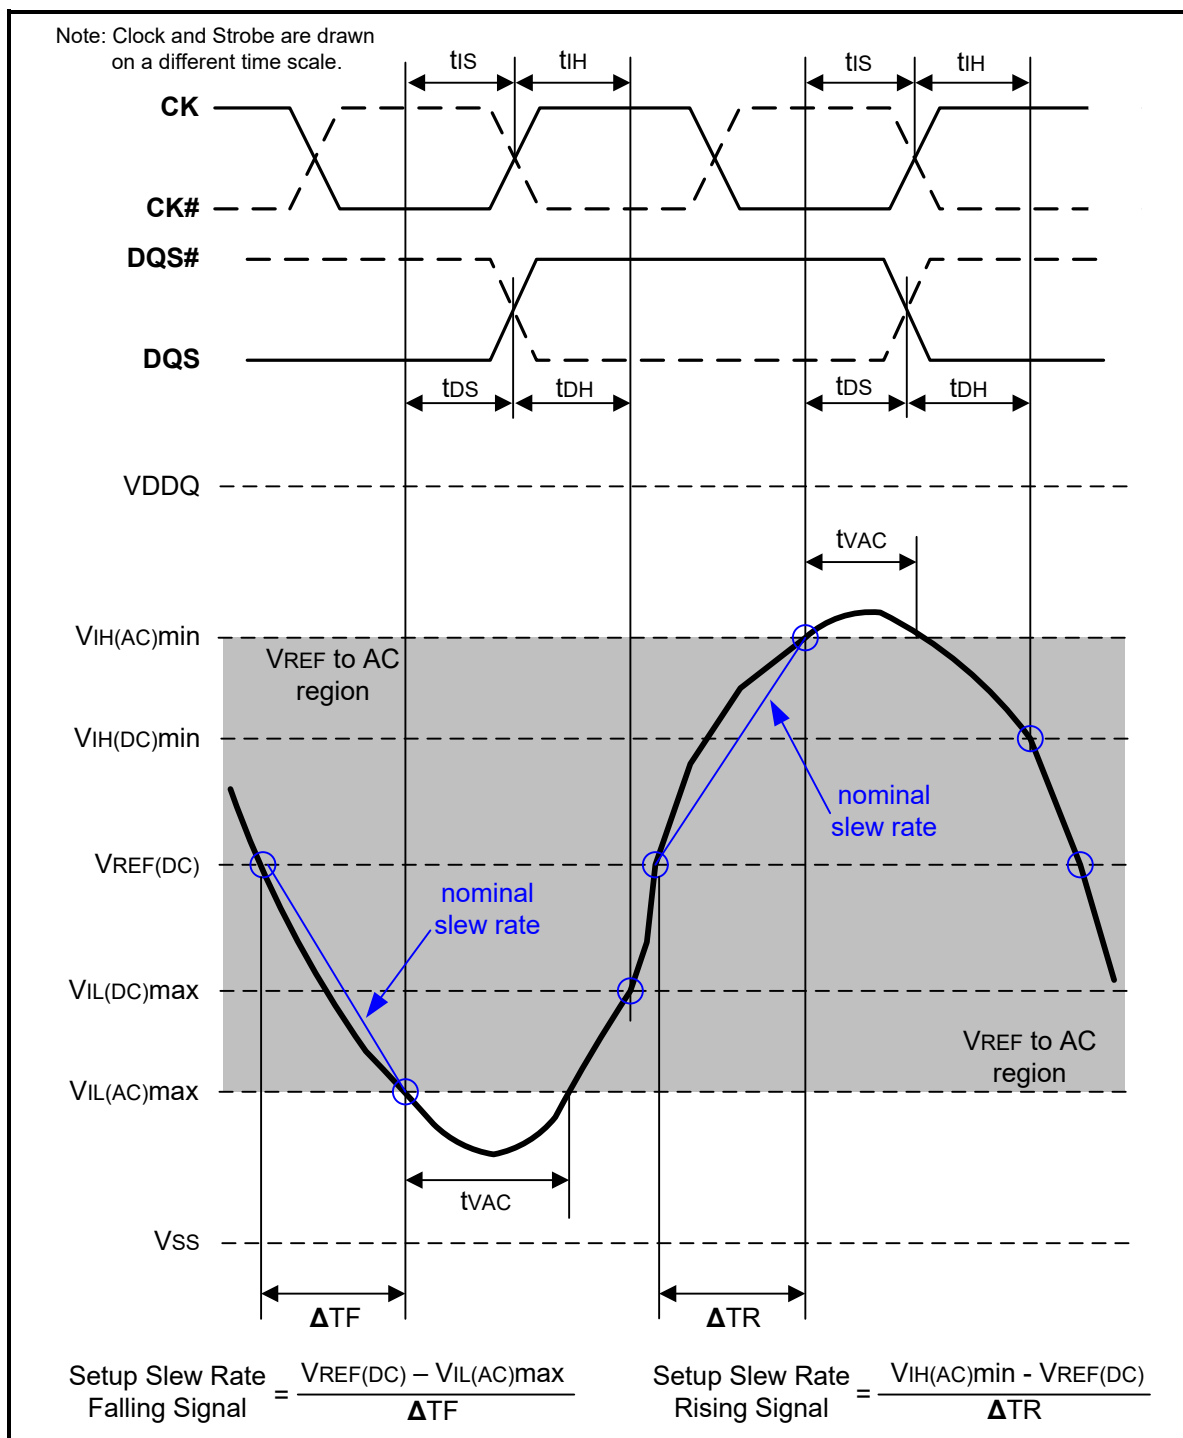
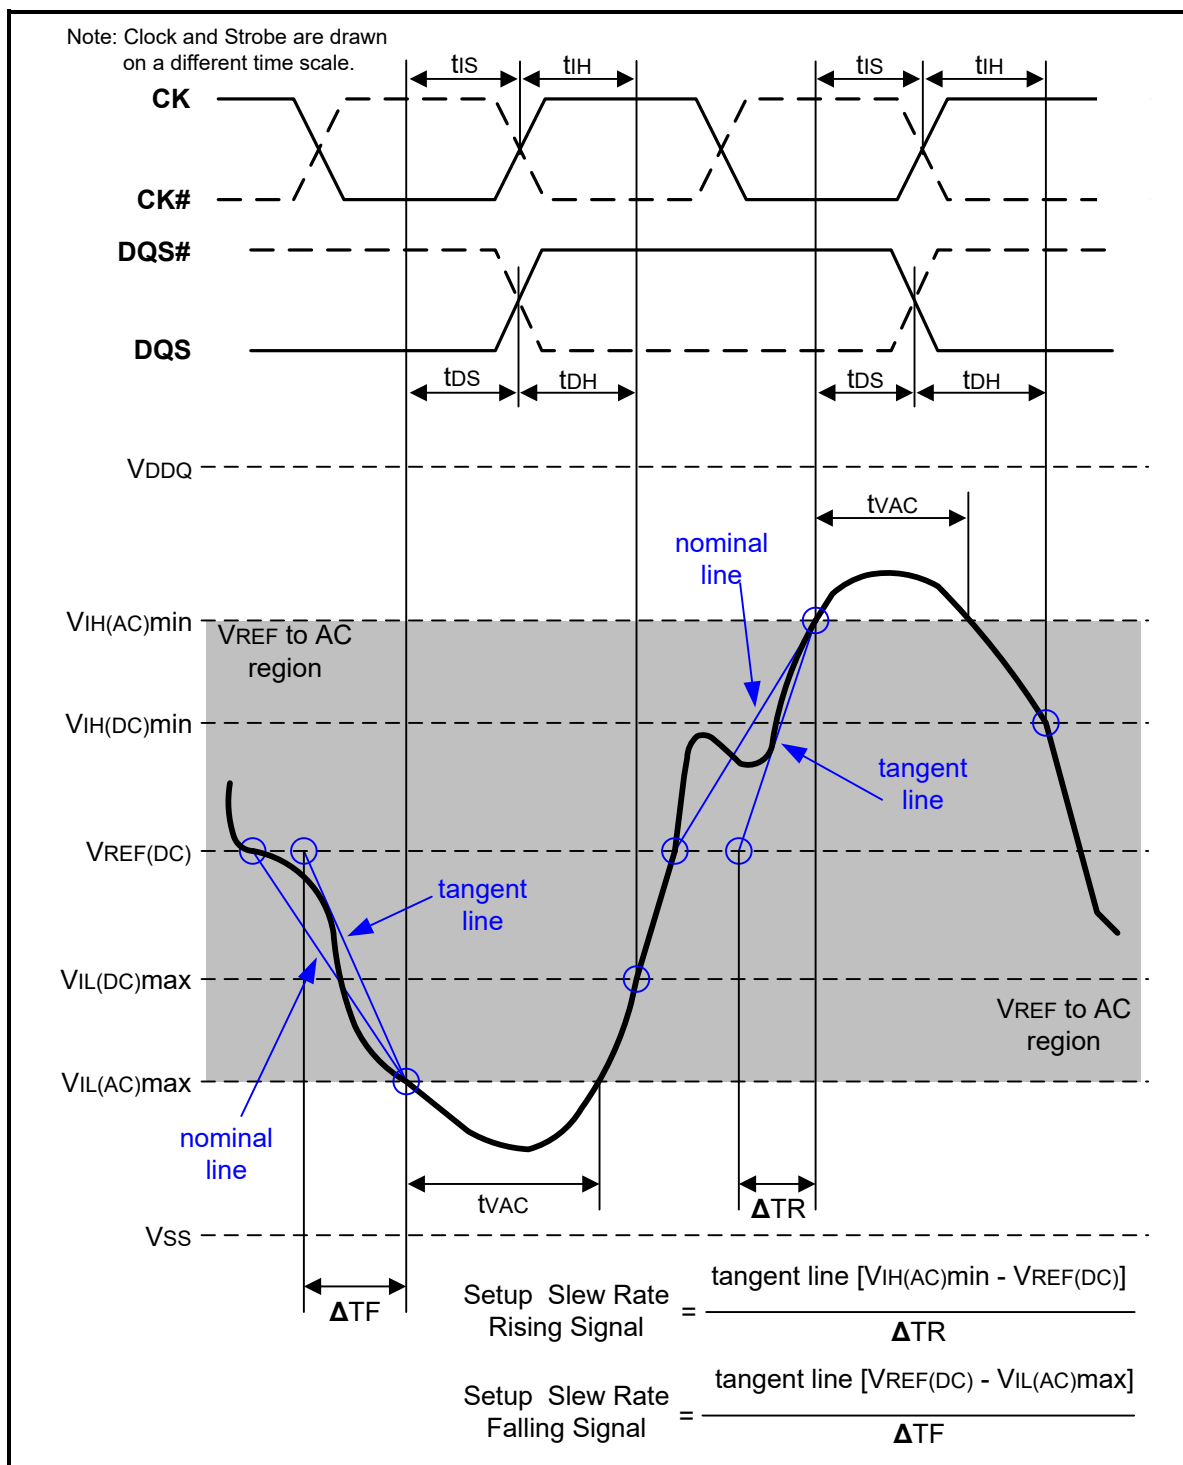

Figure 107 – Illustration of nominal slew rate and tvAC for setup time tds (for DQ with respect to strobe) and tis (for ADD/CMD with respect to clock)
Figure 109 – Illustration of tangent line for setup time t_{DS} (for DQ with respect to strobe) and t_{IS} (for ADD/CMD with respect to clock)
Setup (t_{IS}) nominal slew rate for a rising signal is defined as the slew rate between the last crossing of $V_{REF(DC)}$ and the first crossing of $V_{IH(AC)min}$. Setup (t_{IS}) nominal slew rate for a falling signal is defined as the slew rate between the last crossing of $V_{REF(DC)}$ and the first crossing of $V_{IL(AC)max}$. If the actual signal is always earlier than the nominal slew rate line between shaded 'VREF(DC) to AC region', use nominal slew rate for derating value (see Figure 107). If the actual signal is later than the nominal slew rate line anywhere between shaded 'VREF(DC) to AC region', the slew rate of a tangent line to the actual signal from the AC level to $V_{REF(DC)}$ level is used for derating value (see Figure 109).
Setup (tDS) nominal slew rate for a rising signal is defined as the slew rate between the last crossing of VREF(DC) and the first crossing of VIH(AC)min. Setup (tDS) nominal slew rate for a falling signal is defined as the slew rate between the last crossing of VREF(DC) and the first crossing of VIL(AC)max (see Figure 107). If the actual signal is always earlier than the nominal slew rate line between shaded 'VREF(DC) to AC region', use nominal slew rate for derating value. If the actual signal is later than the nominal slew rate line anywhere between shaded 'VREF(DC) to AC region', the slew rate of a tangent line to the actual signal from the AC level to VREF(DC) level is used for derating value (see Figure 109).